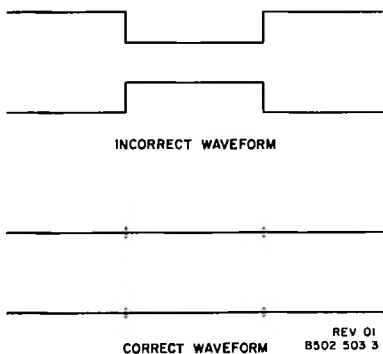

Figure 5-4. Reference Oscillator Waveform.
- b. Place POWER switch to ON, and adjust A3R21 until equal amplitudes of alternate signals are obtained as shown in figure 5-4.